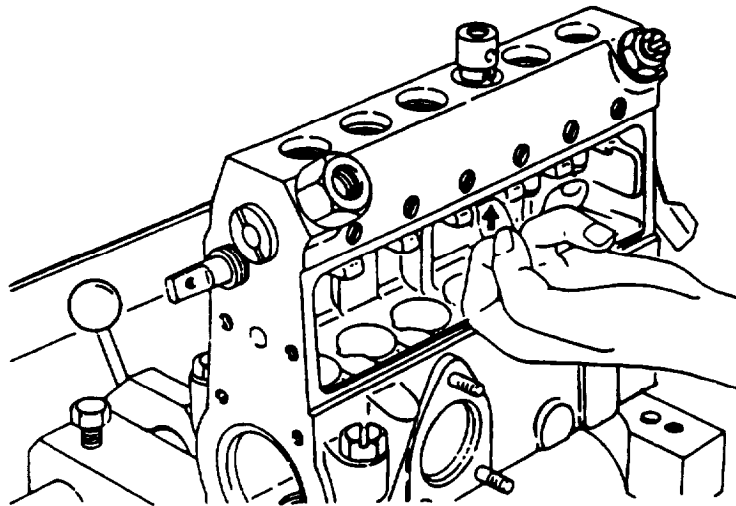

FIGURE 3-16. Removing Plunger Barrel
- ai. Using a finger, push plunger barrel (37) out of housing, refer to FIGURE 3-16. Attach it to its corresponding plunger removed in step z and place it in clean diesel fuel.